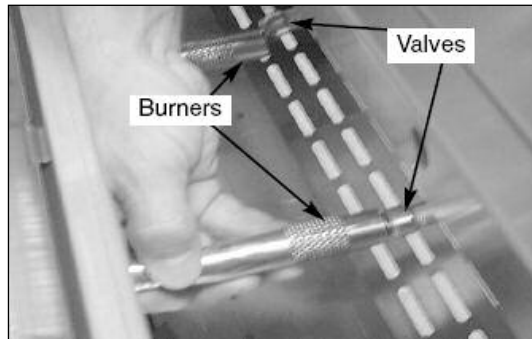

Fig 20
29. Reinstall burners into the grill body. Line up the burners with the valves on the manifold, making sure they are level. (See Fig. 20)